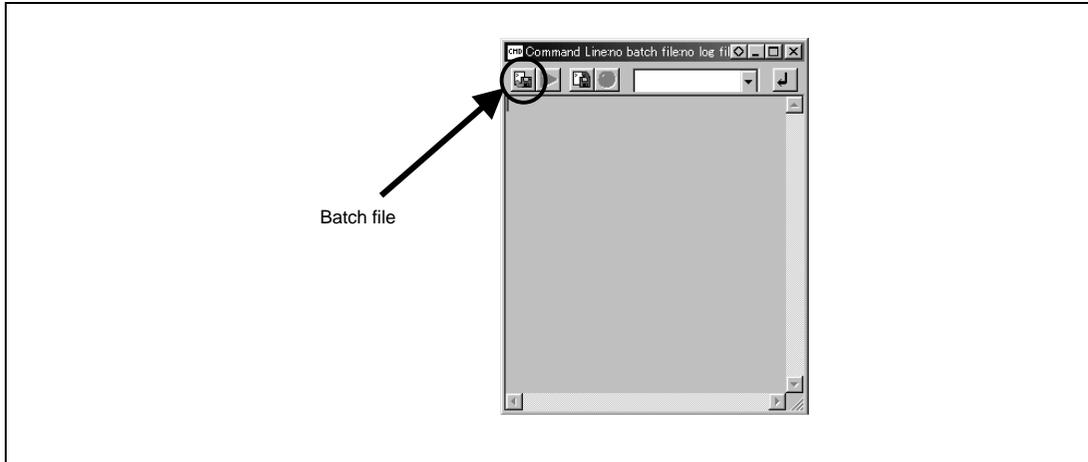

Figure 3.7 Command Line Input
- Select CommandLine in the View menu to open a window (figure 3.7), click the BatchFile button on the upper left, and specify the 7727E10A.hdc file in the SH7727 folder. As a result the BSC is set, and accessing of the SDRAM is made possible.